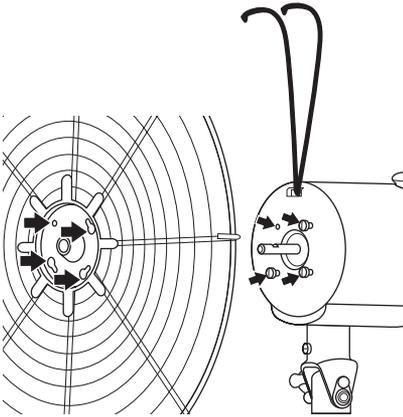

FIGURE 7
20. Align the three keyhole slots in the Back Grille with the three remaining Grille Mounting Screws in the Motor Face, and place the Back Grille onto the Motor Face, ensuring that the Grille Mounting Screw washers are between the screw head and the Back Grille. If necessary, loosen the three remaining Grille Mounting Screws. See Figure 7.